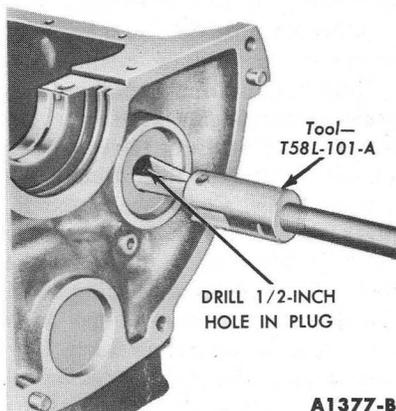

FIG. 83—Camshaft Rear Bore Plug Removal
1. Remove the flywheel and the camshaft. Remove the rear bearing bore plug (Fig. 83).